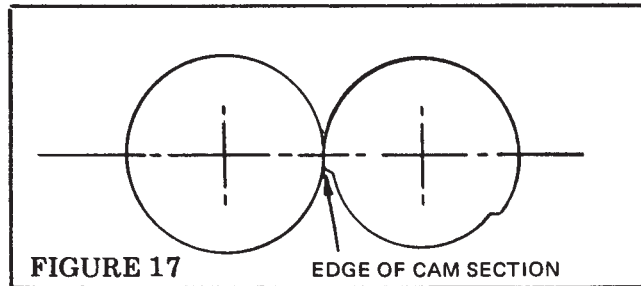

FIGURE 17 EDGE OF CAM SECTION
3. Right hand feed wheel is to be positioned so as to have leading edge of cam section just below the horizontal center line of the feed wheels. See Figure 17.